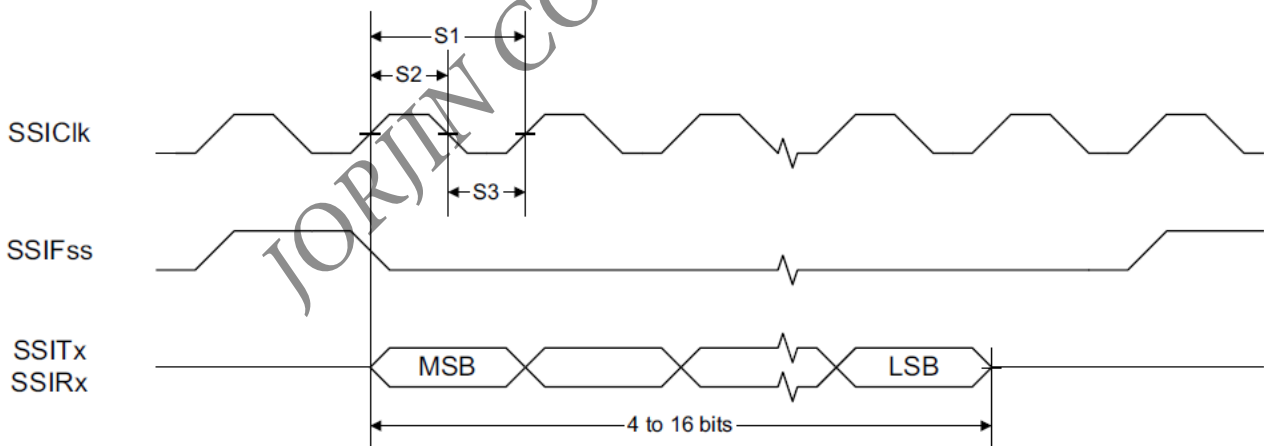
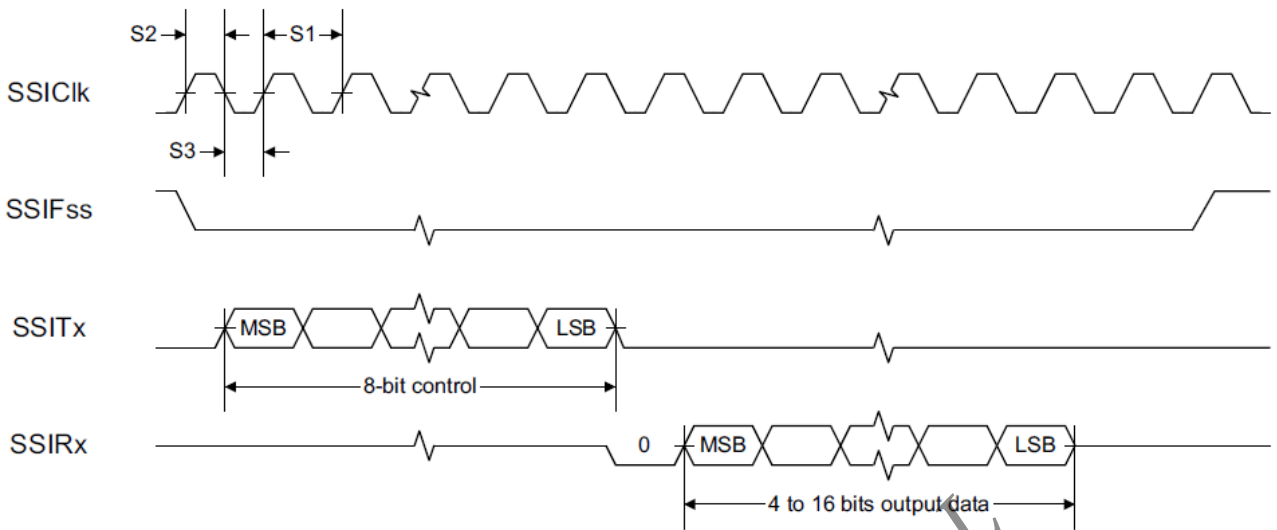
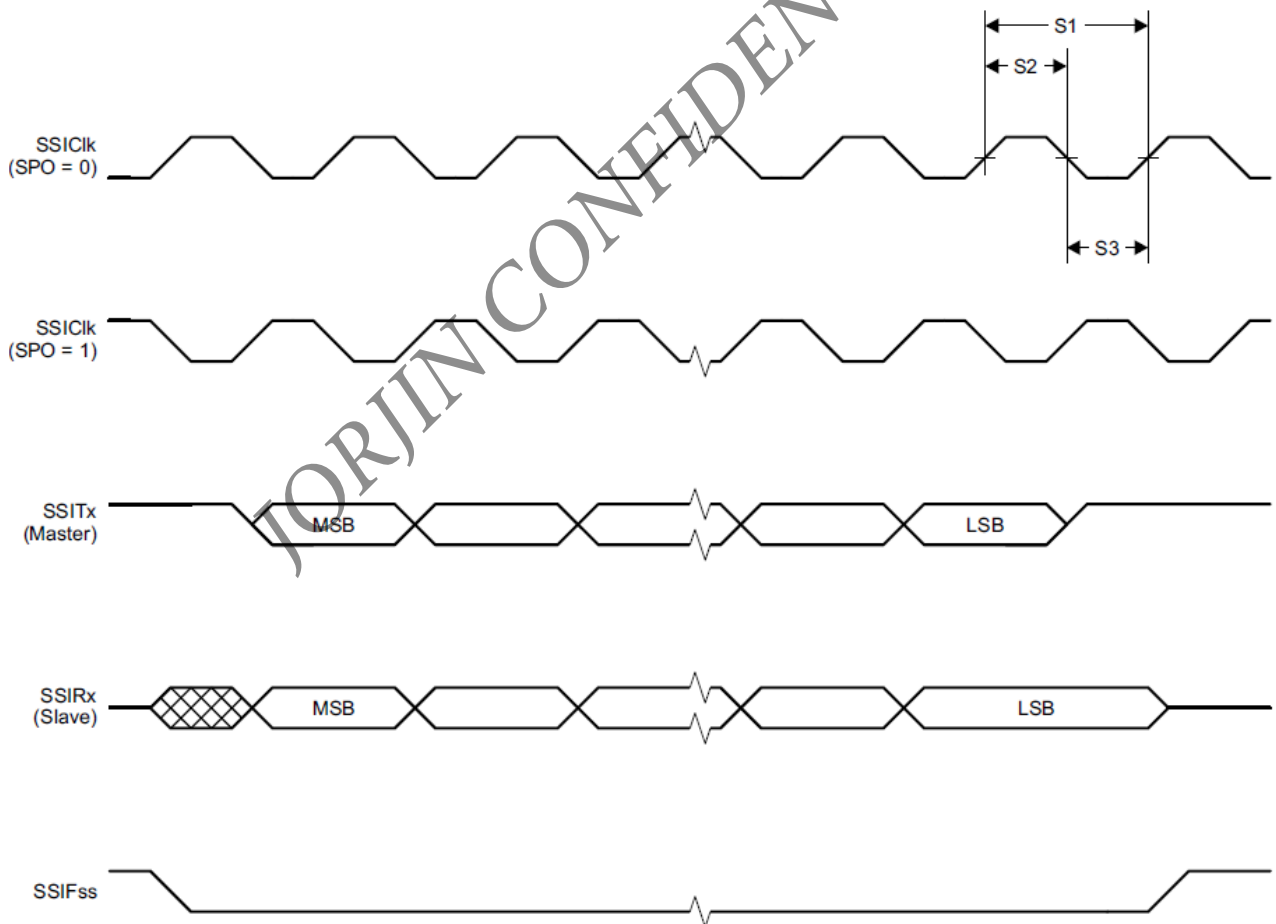

Figure 4-1. SSI Timing for TI Frame Format (FRF = 01), Single Transfer Timing Measurement
Figure 4-2. SSI Timing for MICROWIRE Frame Format (FRF = 10), Single Transfer
Figure 4-3. SSI Timing for SPI Frame Format (FRF = 00), With SPH = 1
(5) Refer to SSI timing diagrams Figure 4-1, Figure 4-2, and Figure 4-3.
(1) Device operating as MASTER. For SSI SLAVE operation, see Section 4.25.
(2) Refer to SSI timing diagrams Figure 4-1, Figure 4-2, and Figure 4-3.